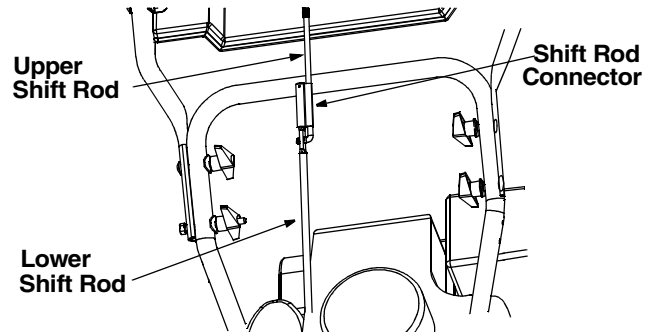

Figure 3
- Secure the upper handle and lower handle on each side with two plastic wing nuts, cupped washers and carriage bolts removed earlier. See Figure 3.
- Slide the shift rod connector down over the end of the lower shift rod. See Figure 3. Tap the connector until it **locks** on the lower shift rod.